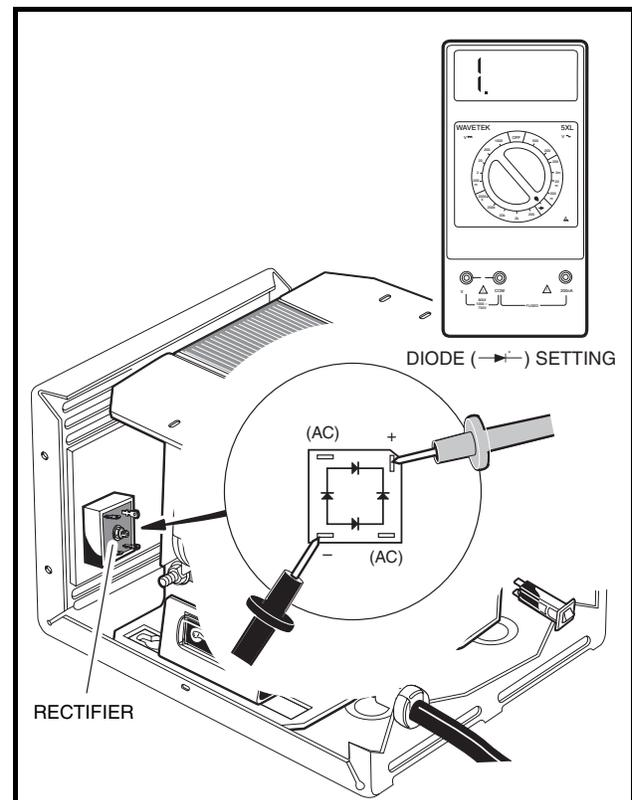

Figure 5-13 Rectifier Test – Probes Reversed
5. Using a multimeter set to the diode test function ($\rightarrow|$), place the black (-) probe of the multimeter on the negative (-) terminal of the rectifier. Move the positive (+) probe to each of the remaining three rectifier terminals and note the readings (**Figure 5-13, Page 5-16**). The multimeter should indicate an overload (no continuity) for all three of the remaining rectifier terminals. If any other reading is indicated, the rectifier has failed and must be replaced.